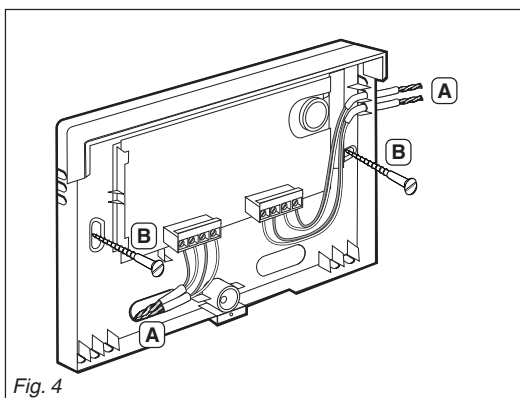
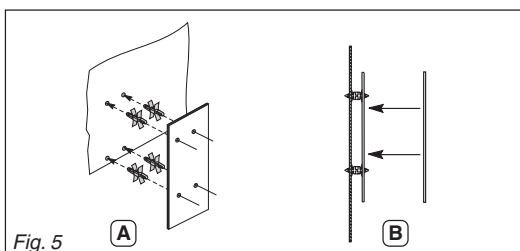

Fig. 4
Fig. 5
3.3 Fit SAG 91 housing (fig. 4)
- 2 - Insert cables (A).
- 3 - Secure the base using 2 screws (B).
3.4 Fit SMG 91 circuit board (fig. 5)
- 1 - Engage the mounting studs in the holes (A).
- 2 - Fit circuit board (B).